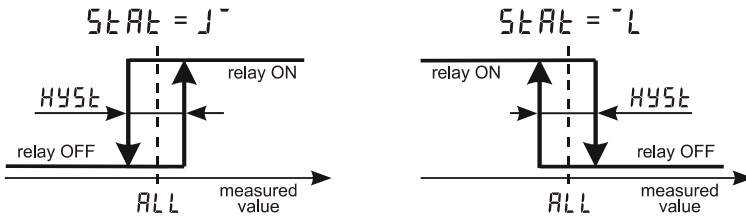
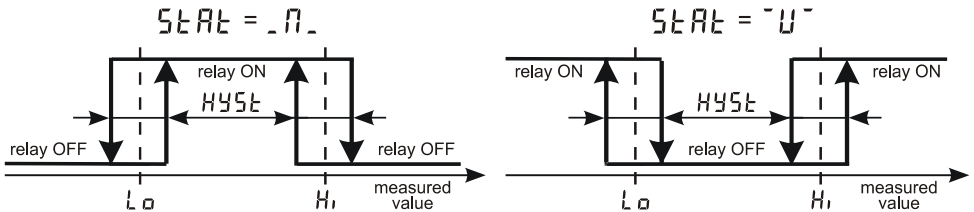

Fig. 10
Fig. 11
- **Relay static characteristic:** $SEt \Rightarrow out \Rightarrow out\ 1 \Rightarrow StAr$. When output state is determined by 1 limit, this parameter may accept either of the values **1** and **2**, and when the state is determined by 2 limits – **1** and **2**. The symbols representing the value of the parameter depict relay activation function (see Fig. 10 and Fig. 11). To confirm value change, press \rightarrow .
Relay activation function in case of 1 limit (Fig. 10) is further specified by the parameters
$SEt \Rightarrow out \Rightarrow out\ 1 \Rightarrow ALL$ and $SEt \Rightarrow out \Rightarrow out\ 1 \Rightarrow HYS$, and in case of 2 limits (Fig. 11) – by the parameters $SEt \Rightarrow out \Rightarrow out\ 1 \Rightarrow Lo$, $SEt \Rightarrow out \Rightarrow out\ 1 \Rightarrow Hi$, and $SEt \Rightarrow out \Rightarrow out\ 1 \Rightarrow HYS$.
A major application of TC600, along with indicating measured variable, is ON/OFF control. The unit has all the features of a standard ON/OFF controller. It may be used for controlling a single actuator, e.g.: heater, cooler, solenoid operated valve, etc. In such case, only 1 relay is needed, and respectively, the parameters to be programmed are: *TYPE*, *SET*, *ALL*, and *HYST*. The relay, and consequently the actuator, will have only 2 states - activated and inactivated. Depending on the *TYPE* value, the relay will be switched ON or OFF when the measured variable exceeds the limit *ALL* a little or falls down below it a little. This exceeding / falling below by a certain margin delays the switching action a bit, but avoids undesirable frequent relay switching when the measured variable slowly crosses the limit. The 2 switching points around the limit form the hysteresis zone *HYST* (see Fig. 10). Please note that the measured (controlled) variable continually cycles around the limit. Therefore, ON/OFF control is not considered precise, but it is very simple to use and implement.